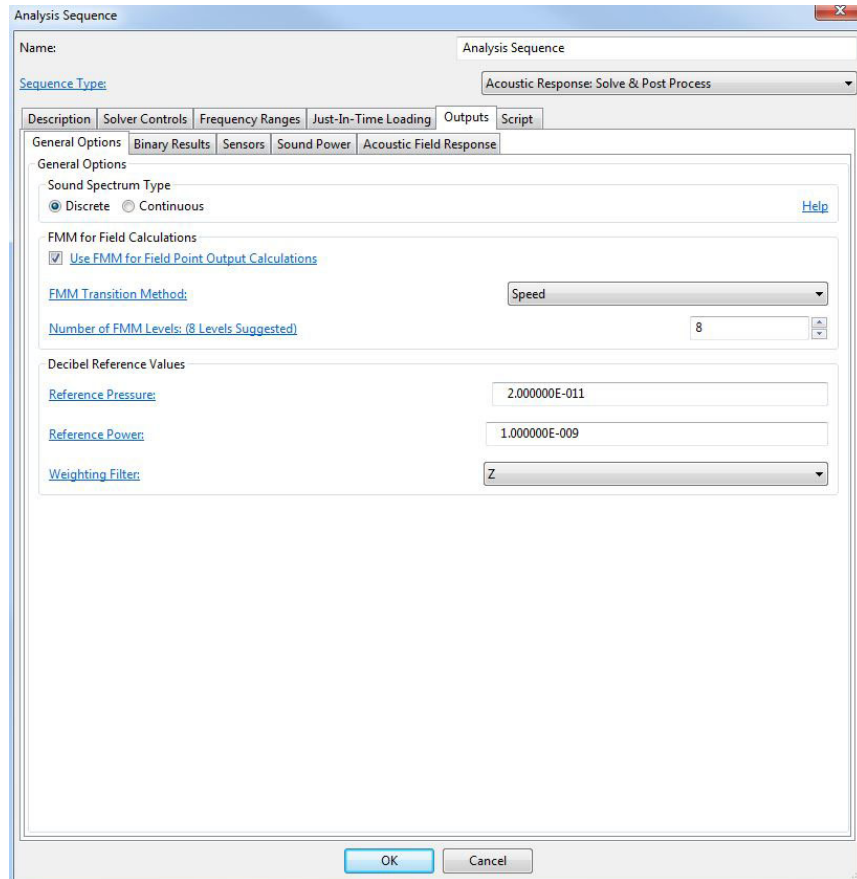

Figure 7.30 General Options window.
The **General Options** tab is shown in Figure 7.30. It allows users to set some common attributes that dictate how various outputs are computed. Set the following in this tabbed window: **Sound Spectrum Type**, whether or not to use **FMM for Field Calculations** or set the **Decibel Reference Values**.
7.3.2.1. Create a Binary Results File This option is selected to save the solution state at the end of each analysis frequency. The binary file could later be read using a *Coustyx* function to recreate the solution state. Figure 7.30.